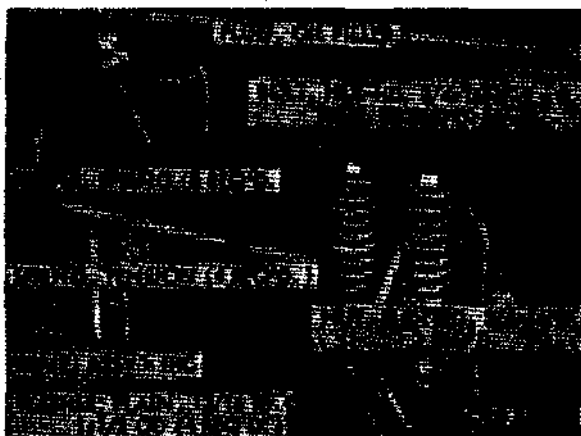

Figure 70. Subframe to frame front disconnect points.
- (a) Disconnect control relay cross-shaft rod (P) at relay lever (N).
- (b) Disconnect power takeoff relay-lever rod (G) at power takeoff relay lever (L).
- (c) Loosen setscrew and disconnect drive shaft assembly (C) at hydraulic pump (H).
(2) *Disconnect subframe from frame assembly (fig. 70).*
- (b) Remove two cotter pins, slotted nuts (fig. 70), plain washers, keepers, tension springs, and hex-head bolts at left and right front mounting brackets.
- (1) Position mounting sill on each frame side rail.
- (2) Lift hoist assembly in position on frame side rails.
- (3) Aline the front mounting bracket holes. Assemble the four hex-head bolts, eight spring keepers (fig. 70), and four tension springs. Position hex-head bolts with spring and keepers assembled through left and right front mounting brackets. Install plain washers and slotted nuts on left and right hex-head bolts. Tighten the slotted nuts and compress springs until cotter pin hole in bolt is visible at slotted nut. Lock slotted nuts with the cotter pins.
- (4) Install the four capscrews (fig. 70), lockwashers, and safety nuts at each